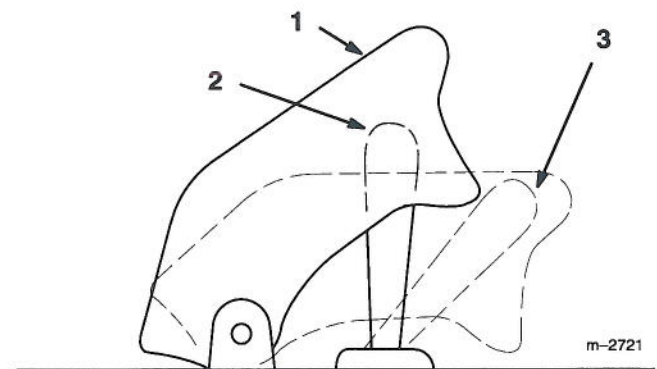

Figure 9
2. Raise the cover and move the power take off (PTO) switch to the "ON" position to engage (Fig. 9).
2. Lower the cover of the power take off (PTO) switch. This moves the switch to the "OFF" position to disengage (Fig. 9).